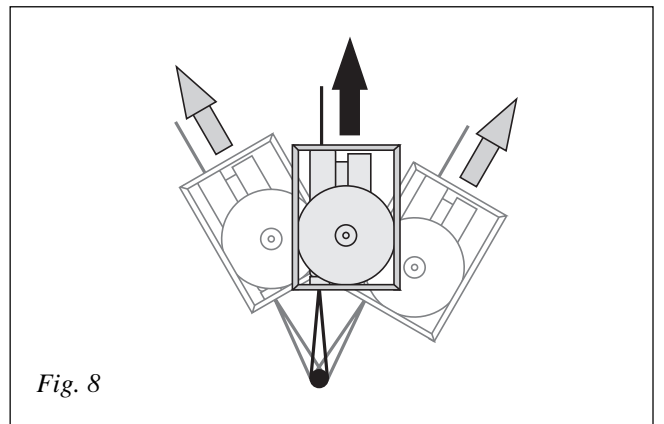

Fig. 8
- The "Mobile Winch with TIRAK®" must be able to **align itself in pulling direction** (Fig. 8).